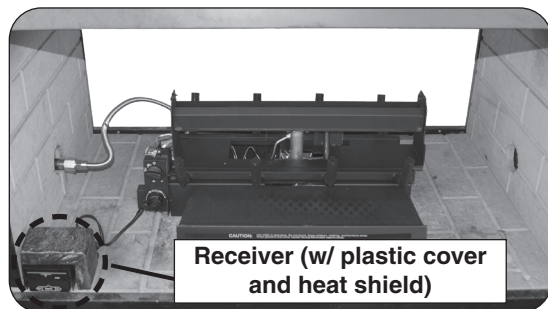

Fig. 15-4 Place remote receiver
3. **Place the remote receiver at the front left corner of the fireplace.** Place as far from the burner system as possible. See Fig. 15-4.
4. Place the plastic cover over the remote receiver with the open side facing forward to allow access to the receiver controls. Then place the decorative heat shield. See Fig. 15-4.